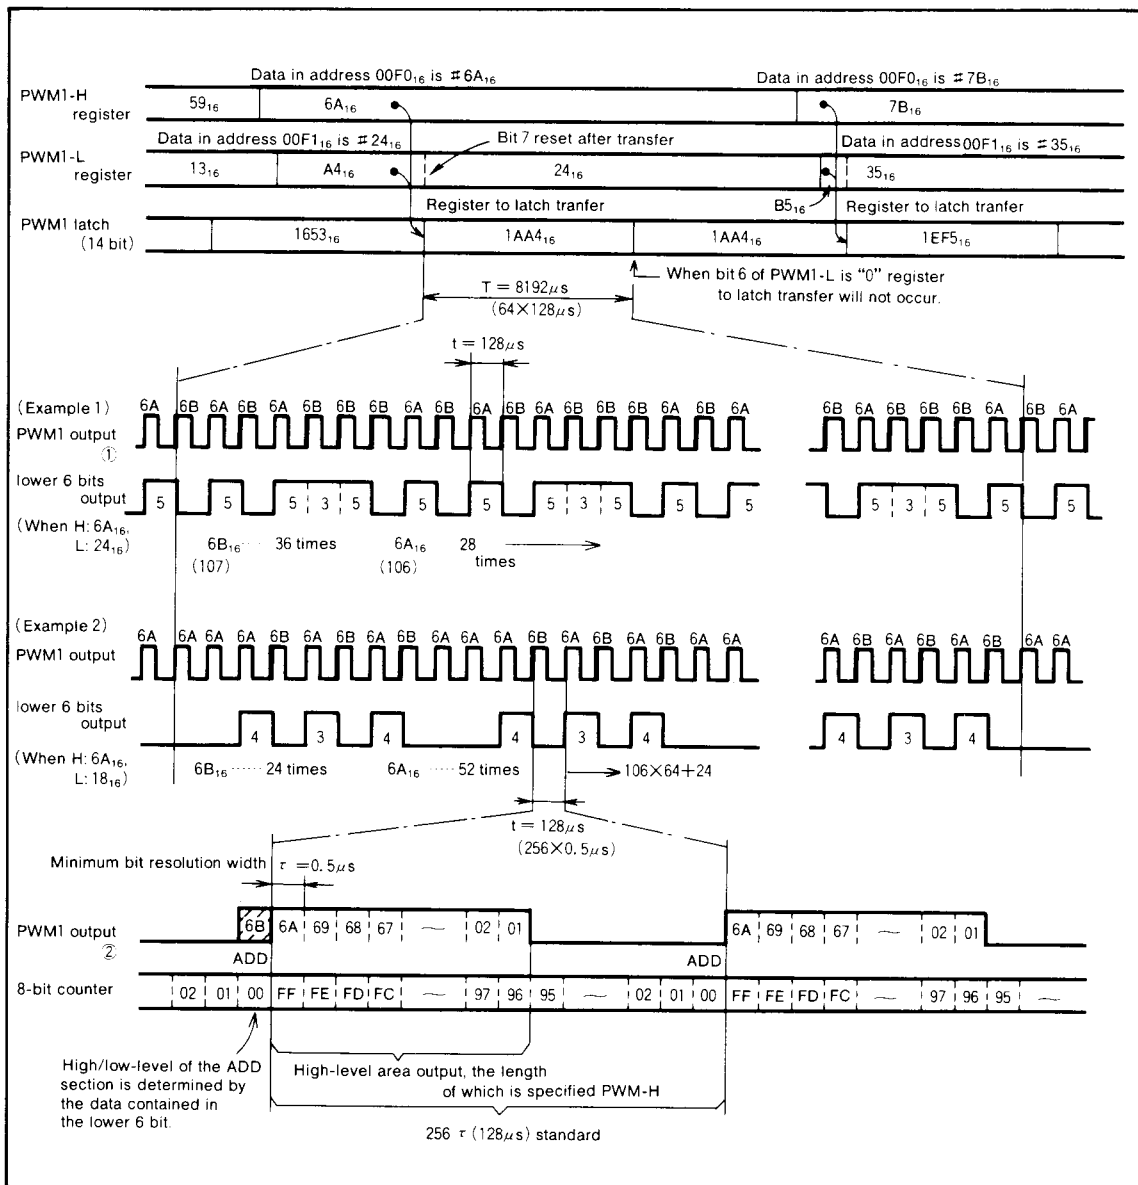

Fig.11 14-bit PWM timing diagram
The timing diagram of the 14-bit PWM1 is shown in Figure 11. The 14-bit PWM divides the data within the PWM latch into the lower 6 bits and higher 8 bits.
A high-level area within a length N times τ is output every short area of $t=256 \tau = 128\mu\text{s}$ as determined by data N of the higher 8 bits. (Refer to PWM output ② in the lower part of Figure 11.)